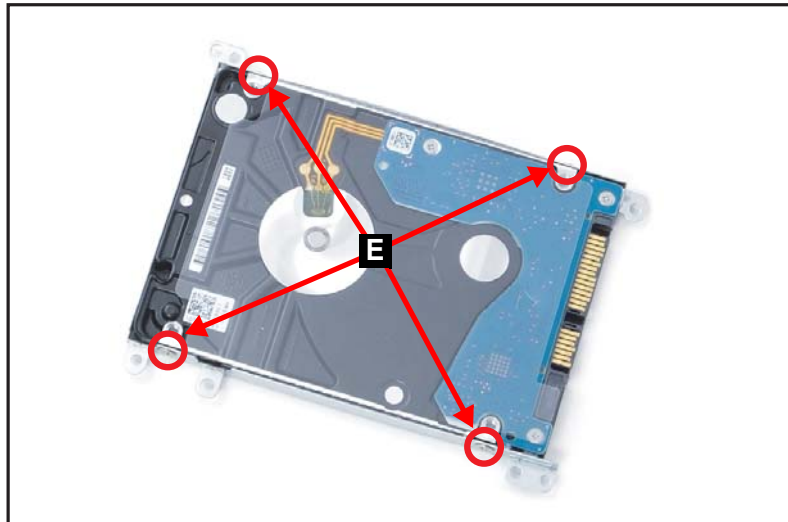

Figure 1-19. HDD Module Removal
5. Remove four (4) screws (E) from the HDD bracket (Figure 1-19).